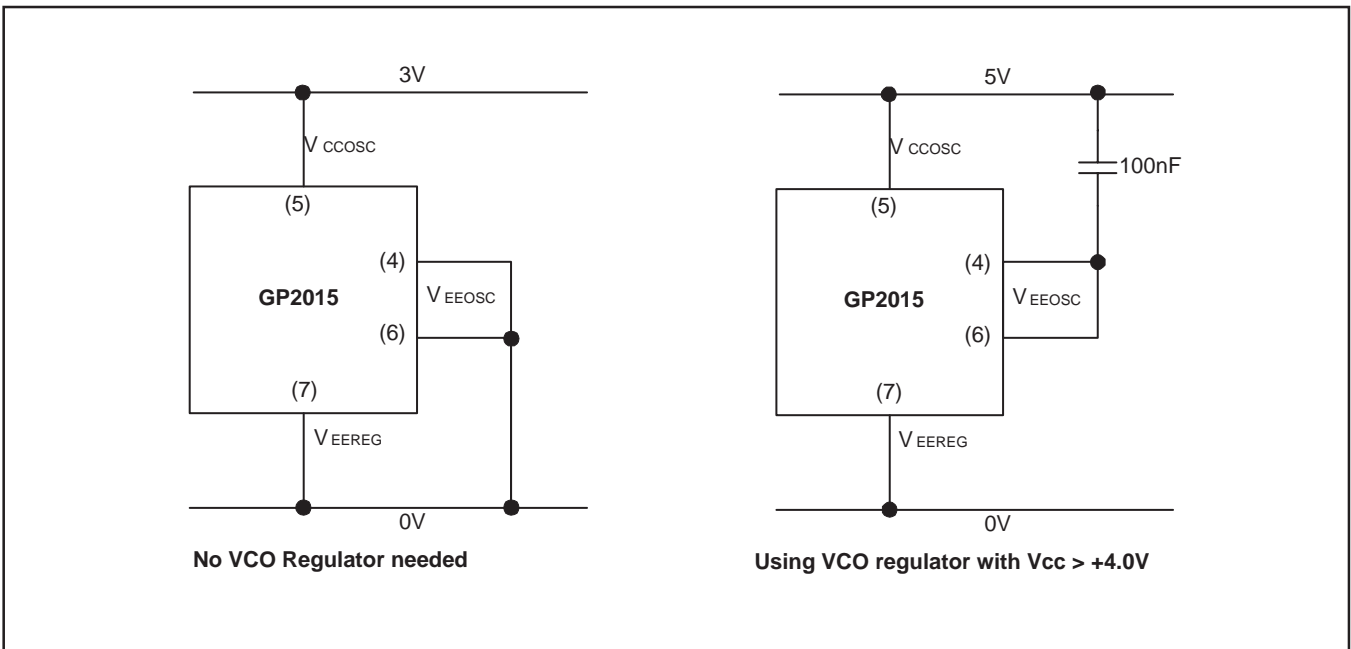

Fig. 7 VCO power-supply connections
- Both pins 4 & 6 ( $V_{EE}$  (OSC)) are connected internally. If the VCO regulator is used ( $V_{CC} = +5.00V$  nominal) then both pins 4 & 6 must be left floating, with either pin de-coupled to  $V_{CC}$  (OSC) with a 100nF capacitor. In this configuration, the dc output level of the regulator can be monitored from  $V_{EE}$  (OSC), with respect to  $V_{CC}$  (OSC) - NOT 0V ( $V_{EE}$ /GND). For operation at  $V_{CC} < +4.0V$ , the VCO regulator cannot be used, and both  $V_{EE}$  (OSC) pins must be shorted to  $V_{EE}$  (REG) (Pin 7) - see Fig. 7.